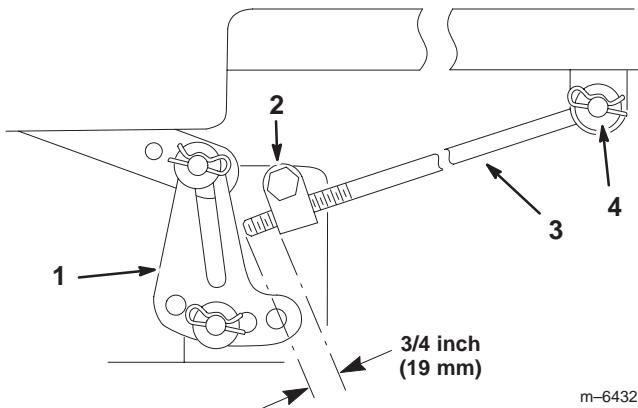

Figure 41
- Measure the length of the rod extending out of the adjusting block on the sides of the chassis (Fig. 41).
- If the rod length is **not** a 3/4 inch (19 mm), remove the hairpin cotter and washer from the end of the adjusting rod (Fig. 41) and turn the rod until the 3/4 inch (19 mm) dimension is obtained.